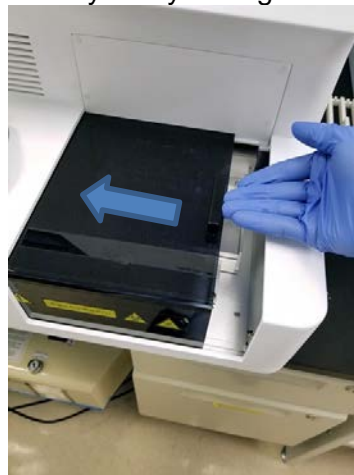

Figure 6: Opening Instrument Door
- Open the door of the MS Fast Analyzer by sliding it to the left as shown in Figure 6.